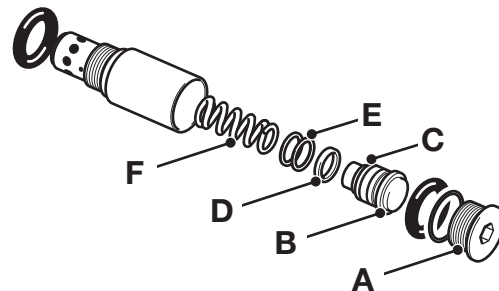

Fig 9.
- b The difference between the set pressure and the present pressure determines the number of shims E required for adjustment. ⇒ Fig 9. \(□ E-218\).